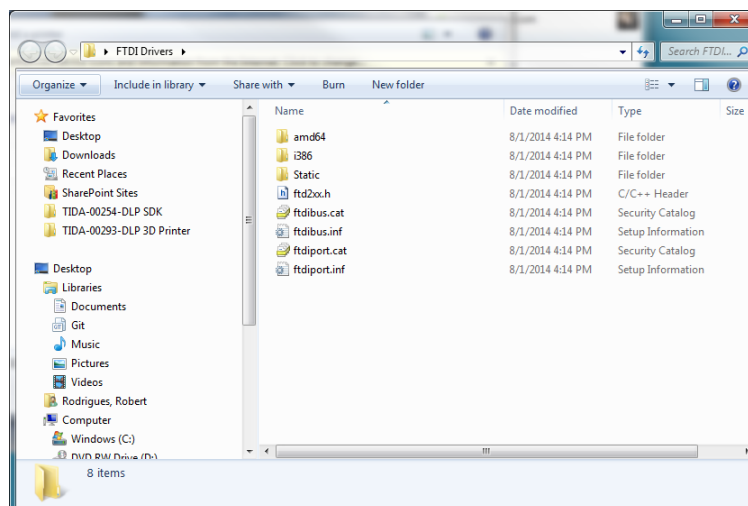

Figure 2-2. Extracted FTDI Driver Files
2. Extract the downloaded .zip file into a convenient folder, as shown in Figure 2-2.